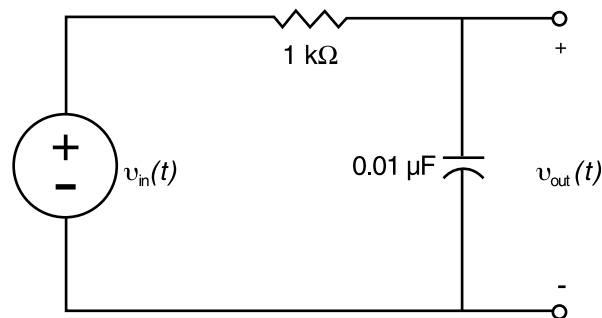

Figure 1
The circuit of Fig. 1 is a first-order RC circuit with the output $v_{out}(t)$ taken across the capacitor. The input is the unit step function $v_{in}(t) = u(t)$.
- Determine the circuit voltage transfer function $T_v(s)$, the step response transform $G(s)$ and the output waveform $g(t)$ for $v_{in}(t)$ as indicated in Fig. 1.
- b. Enter the circuit of Fig. 1 into a CCA program and determine the step response by performing a transient analysis. Plot the results and tape the output into your lab journal.
- a. Connect the circuit of Fig. 1. Set the output of the function generator to produce a square wave, $1 V_{pp}$ and a DC offset of $+0.5 V_{avg}$. You will need to determine an appropriate frequency so that the circuit reaches its final value before the source changes state back to 0 V. The scope should be triggered on the rising edge of the square wave.
The step response for the circuit of Fig. 1 is of the form:
From the sketch of the response waveform drawn in Procedure 1b, determine the values of A, B, and T_c . (the “Exponential Waveforms” experiment provides details on determining the time constant from a sketch of the circuit response.) Use these experimental values for A, B and T_c and Eq. 5 to determine the realized transfer function $T_v(s)$ for the circuit of Fig. 1.